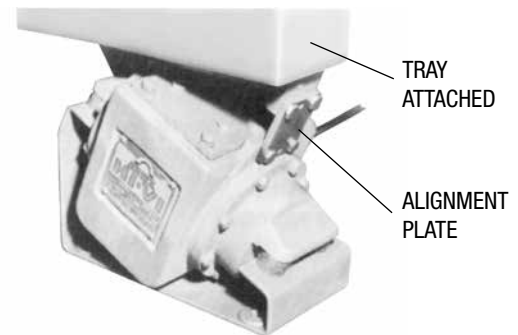

FIGURE 11
2. Attach the tray and fasten the bolts securely (see Figure 11).